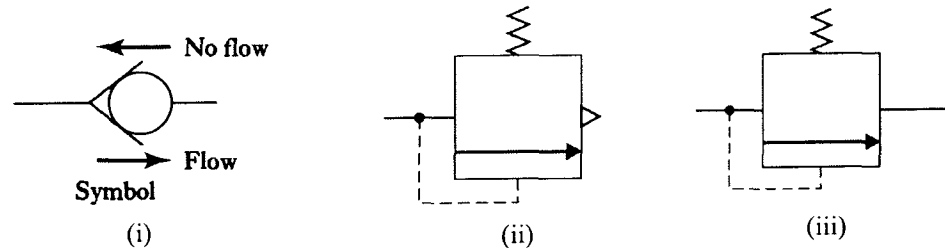

Figure Q1[a]
- Q1. [a] Figures Q1[a](i)-(iii) show three types of valves commonly used in pneumatic actuation systems. Name these valve types and explain their applications.